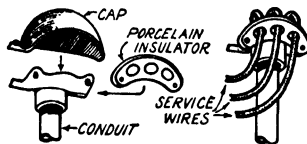
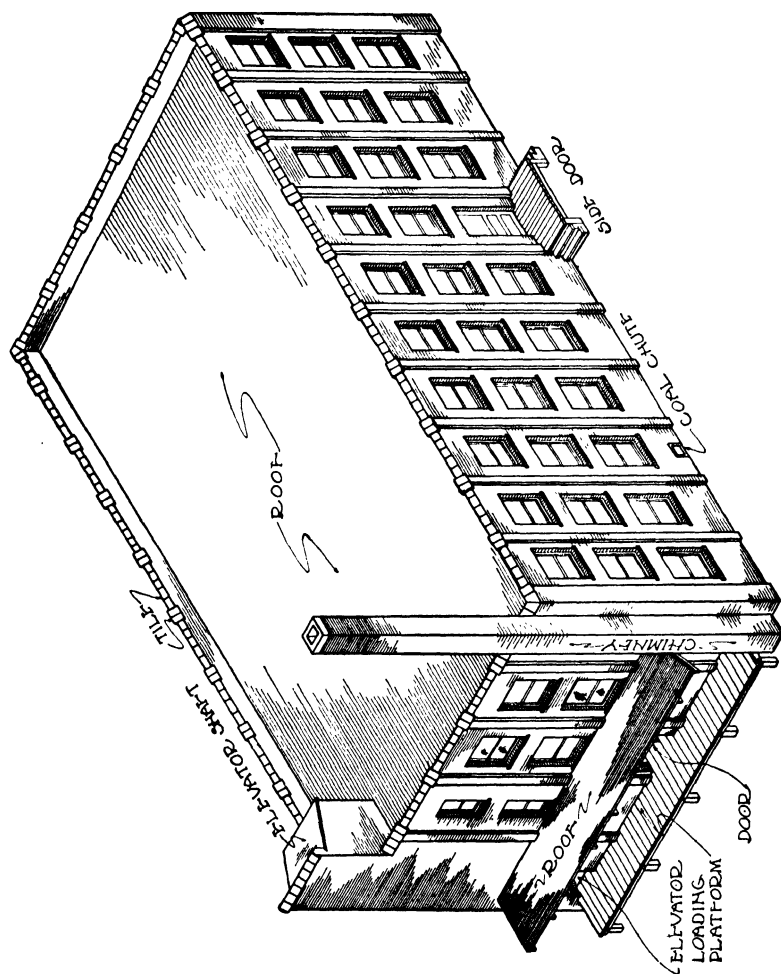
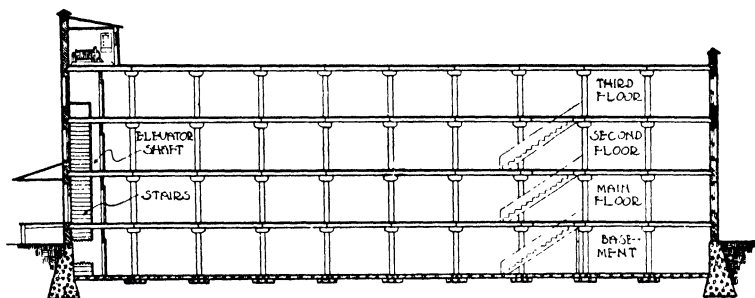

Fig. 27. Service Head or Entrance Fitting
Fig. 1. Isometric Drawing of Outside View of Factory Building
Fig. 2. Elevation Looking through Factory Building
**Installing Service Wires.** In this building a three-wire 110- to 220-volt service installation is used and there will be three No. 8 rubber-covered wires installed in the conduit. Two of the rubber-covered wires will have black insulation and the third wire will have white insulation in order to identify the grounded conductor. A fish tape or wire is pushed through from the service switch in the basement to the top of the service head and the wires are fastened to the fish tape in the same manner as for a branch circuit. The wires are then fed into the top of the service head, Fig. 27, which is fastened to the post of the porch near the second floor, Fig. 2. Powdered soapstone is used to aid in pulling the conductors into the conduit and is rubbed on them as they are being pulled into the conduit. The three wires are arranged in triangular form and fed into the conduit in this manner.
After the wires have been pulled through to the service switch, a four-foot length of each wire is left outside of the top of the conduit at the service head. This length of wire is used by the lighting company's men in connecting the service to the service drop which they will install from their lines on the poles at the rear of the building after all of the wiring in the building has been completed and has passed inspection. The cap of the service head, Fig. 27, is now placed in position.
The building to be wired is a factory building, shown in Fig. 1. It is three stories high with a basement. The length of the building is 150 feet and the width is 75 feet. The height from one floor to the next is 15 feet. The walls of the building are of brick, and the floors are wood, supported by wood floor joists and beams. The windows are large so as to provide good light on each floor. The freight elevator is located in one corner of the building, and the electric motor and elevator machinery are placed in a small house on top of the roof. A loading platform is located at the rear of the building, at which point trucks deliver freight and receive finished merchandise to be shipped out. There is a chute leading from the loading platform to the basement for the merchandise to slide down.
In order to get a general view of the inside of the factory building, let us assume that the side of the brick wall which is nearest you in Fig. 1 is removed, and it will then look like Fig. 2. There are four rows of nine posts each, which are used to support the floor. These posts are located 15 feet apart, and the rows of posts divide the building off into 50 sections or bays, each one being 15 feet square. Thus a post is located at the corner of each section or bay, but partitions have not been put in between each and every one of these sections.